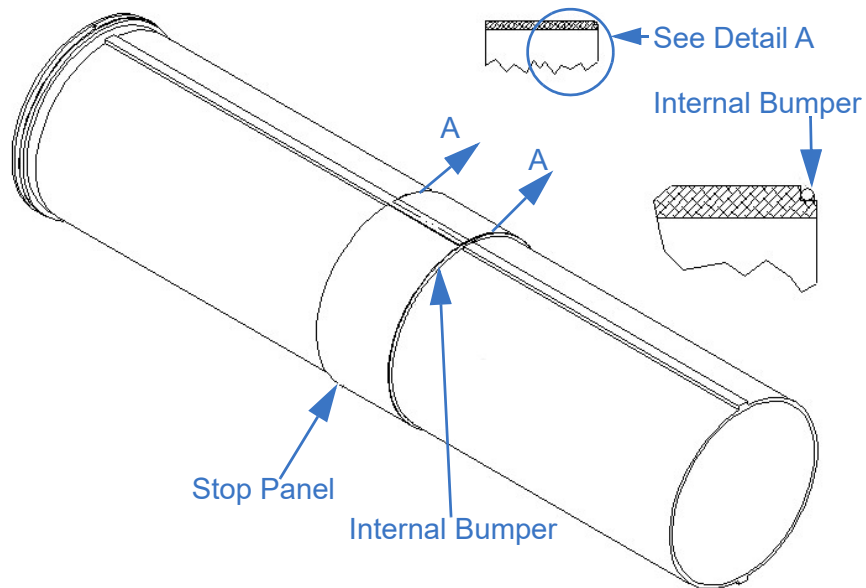

Figure 8-16 Replacing Internal Bumpers
2. Carefully stretch the new internal bumper over the end of the tube and insert it into the groove machined in the keys. The internal bumper should fit tightly against the tube immediately above the stop panel (Figure 8-16).